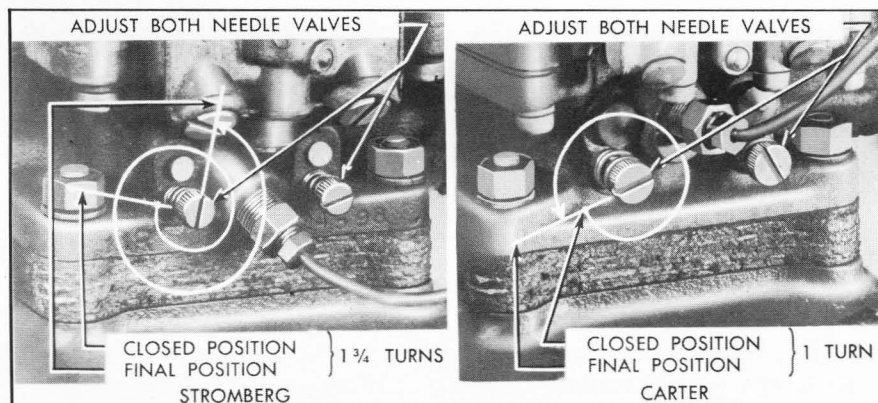

Figure 3-18—Initial Setting of Idle Needle Valves
2. On Stromberg carburetor, turn each valve "OUT" (counter clockwise) $1\frac{3}{4}$ turns. On Carter carburetor, turn each valve "OUT" 1 turn. *Be careful to turn both valves exactly the same amount. See figure 3-18.*